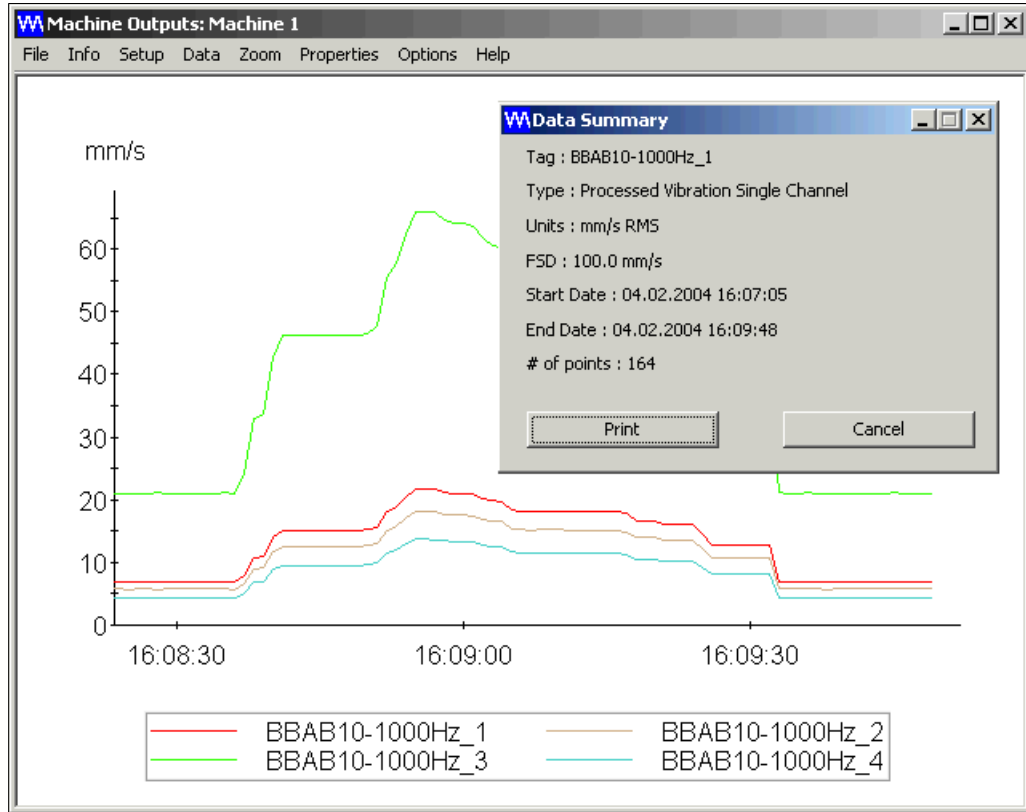

Figure 7-15: Typical strip chart display with the Data Summary window open
- To obtain a data summary for each curve displayed, choose **Data** from the **Info** menu. A Data Summary window as shown in Figure 7-15 appears. The **End Date** and **No. of Points** relate to the moment at which the data summary was requested, and do not change over time. The strip charts, however, continue to evolve in real time in the background. To display a data summary for another signal, simply click the name of the signal (for example BBAB10-1000Hz\_4) from the list of names appearing at the bottom of the Machine Outputs window.